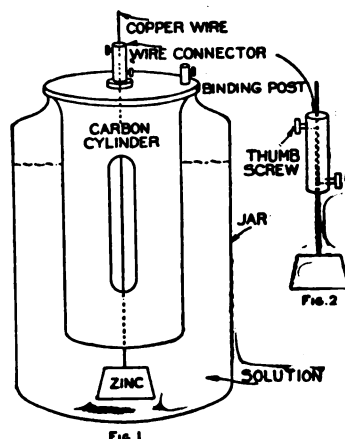

Fig. 1
When the cord is passed over pulley C, as shown in Fig. 1, the circuit will be closed when the alarm goes off, but if it is passed over D the circuit will be opened. Pulley D is fastened to a piece of spring steel, E, which in operation is bent, as shown by the dotted lines, thus causing the switch to snap open quickly and prevent forming an arc.—Contributed by Douglas Royer, Roanoke, Va.
Through the center of a block of wood 4 in. square and $\frac{7}{8}$ in. thick (A, Figs. 1, 2 and 3) saw a circular opening $2\frac{7}{8}$ in. in diameter. On each side of this block cut a larger circle $3\frac{1}{4}$ in. in diameter, having the same center as the first circle (Fig. 3). Cut the last circles only $\frac{1}{4}$ in. deep, leaving the first circle in the form of a ridge or track $\frac{3}{8}$ in. wide, against which the rubber tubing, E, is compressed by wheels. Bore two $\frac{1}{4}$ -in. holes (HH, Fig. 1) from the outside of the block to the edge of the inner circle. Put the rubber tube, E, through one of these holes, pass it around the track and out through the other hole. Notice the break (S) in the track; this is necessary in order to place in position the piece holding the wheels.
and the track (K, Fig. 1) is equal to the thickness of the tubing when pressed flat. If the wheels fit too tightly, they will bind; if too loose, they will let the air through. Bore a hole through the middle of the wheel-holder and insert the crankpin, D, which should be about $\frac{1}{2}$ in. in diameter. The crankpin should fit tightly; if necessary drive a brad through to keep it from slipping.
A screen which will not interfere with the radiation of the heat from the fire, and will keep skirts and children safe can be made at little expense out of some strap iron. The screen which is shown in Fig. 1, stands 20 in. high from the base to the top cross-piece and is made of $\frac{3}{4}$ by $\frac{1}{4}$ -in. and $\frac{1}{2}$ by $\frac{1}{4}$ -in. iron. The top and bottom pieces marked AA, Fig. 1, are $\frac{3}{4}$ by $\frac{1}{4}$ in. and are 30 in. long, bent at an angle to fit the fireplace 7 in. from each end, as shown in Fig. 2. The three legs marked BBB, Fig. 1, are of the same size iron and each leg will take 34 in. of material. In shaping the feet of these three pieces give them a slight tendency to lean toward the fire or inside of screen, says
Mark the legs $2\frac{3}{4}$ in. from the bottom and 2 in. from the top and after making rivet-holes rivet them to the cross bars, AA, Fig. 1.
Cut six pieces, $17\frac{1}{2}$ in. long and punch holes to fit and rivet onto the remaining holes in cross bars, AA, Fig. 1. Clean it up and give it a coat of black Japan or dead black.
Next procure what is known as a wire connector. This is a piece of copper tube about $1\frac{1}{2}$ in. long having two thumb screws, one on each end on opposite sides (Fig. 2). The upper screw is to connect the battery wire, the lower one to raise and lower the zinc. The battery is now complete, and the solution (Fig. 1) must be prepared. Proceed as follows:
For simple experimental work on distances of 100 ft. only, an ordinary automobile spark coil can be used in place of the more elaborate coil, Figs. 1 to 4.
A small speed-lathe, suitable for turning wood or small metal articles, may be easily made at very little expense. A lathe of this kind is shown in the cut (Fig. 1), where A is the headstock, B the bed and C the tailstock. I run my lathe by power, using an electric motor and countershaft, but it could be run by footpower if desired. A large cone pulley would then be required, but this may be made in the same manner as the small one, which will be described later.